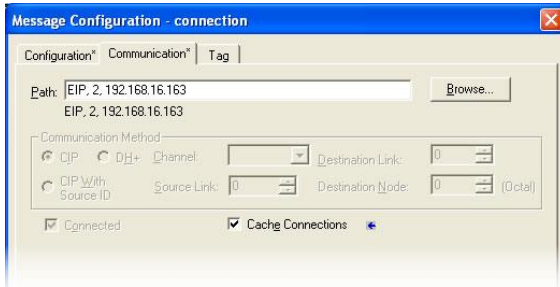

Figure 55: Setting the Communication Path
- d) "Communication" tab settings (refer to Figure 55):